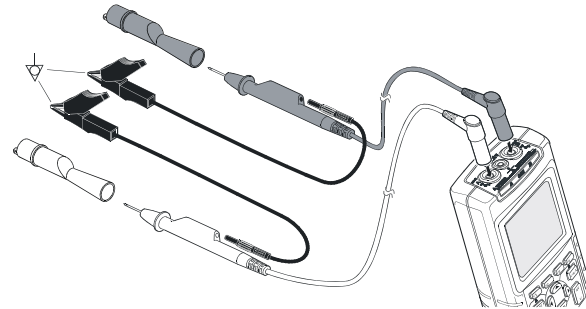

Figure 9-2. Grounding with Short Ground Lead
- Use the short ground lead(s) when measuring DC or AC signals on input A and input B. (See Figure 9-2.)